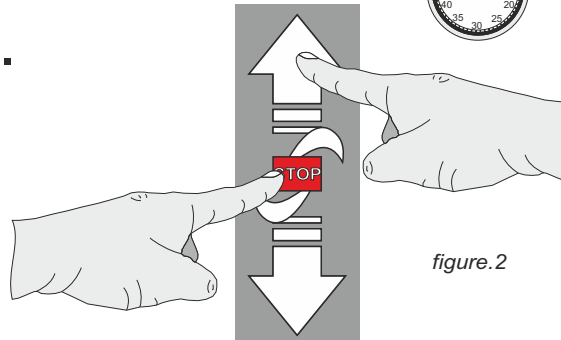
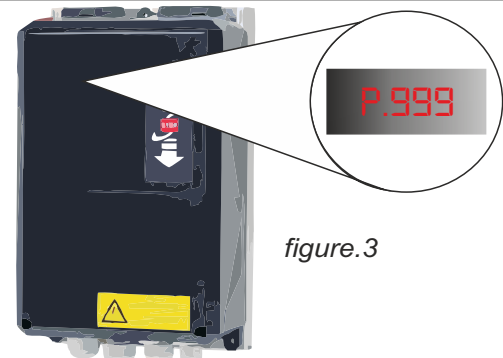

figure.2
figure.3
2. 2. Press and hold the “up” arrow and “stop” button together for 3 seconds (figure.2).
4. To enter a parameter scroll using the arrow keys until the LCD display show the number you require (figure.3) using the command buttons (figure.2). when the display shows the parameter number required in the first column of the table below, press the STOP button for one second. You are now in that selected parameter, should you wish to leave this parameter or discard any changes simply press the STOP button again for 1 second ONLY!!. To make any adjustments in the selected parameter simply use the arrow keys (figure.2) up or down, when the appropriate value is selected you should press and hold the STOP button until the flashing dots between the value cease to flash (see figure.4). The value you selected has now been saved to memory. To exit the menu press and hold the “stop” key for seven seconds until the LCD display shows “STOP” or “AU” (figure.5)